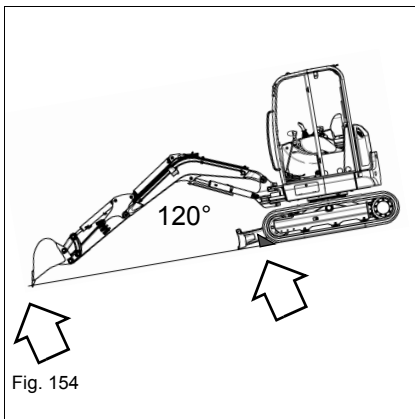

Fig. 154
- Secure the machine with wheel chocks (see Fig. 154).